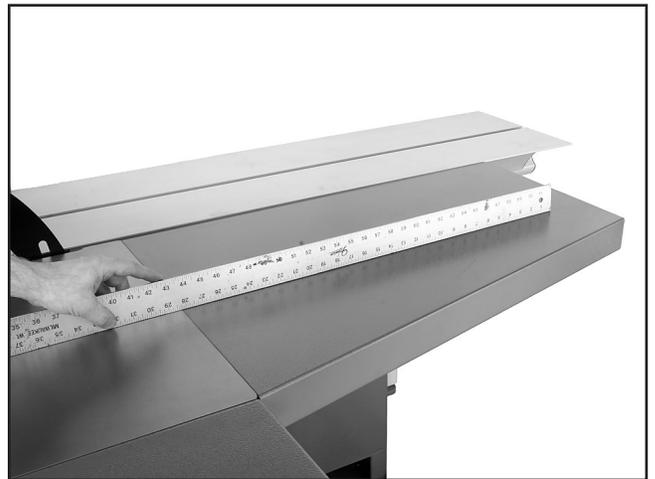

Figure 21. Checking with a straightedge.
5. Check the table surfaces with a straightedge as shown in **Figure 21**.